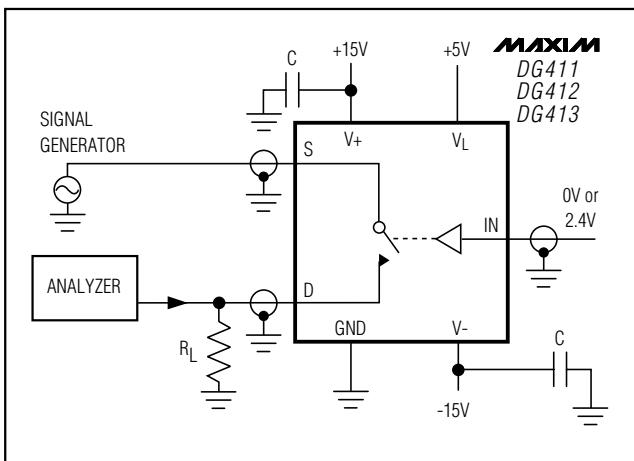

Figure 5. Off-Isolation
**Note 5:** Off Isolation =  $20 \log(V_D/V_S)$ ,  $V_D$  = output,  $V_S$  = input to off switch. See Figure 5.